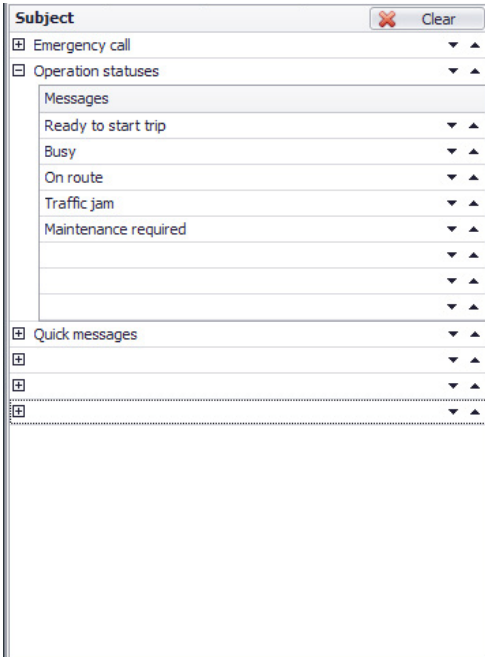

Fig.49. Standard messages.
- The Custom profile can contain up to 6 subjects with up to 8 messages in each of them (Fig.49).